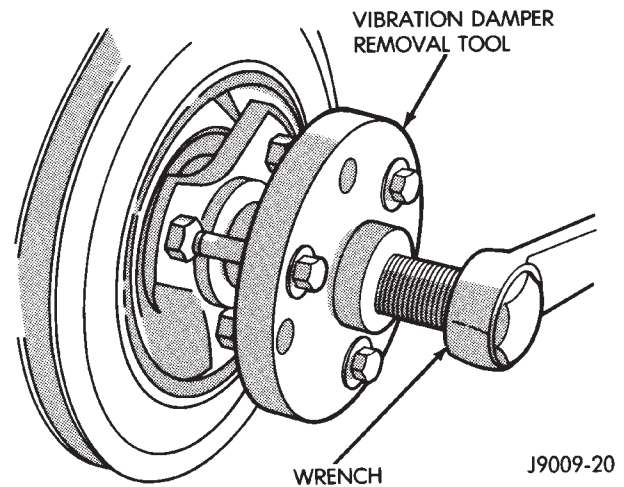

Fig. 1 Vibration Damper Removal Tool 8068
(1) Disconnect negative cable from battery.
(2) Remove the serpentine drive belt and fan shroud.
(3) Remove the vibration damper retaining bolt and washer.
(4) Use Vibration Damper Removal Tool 8068 to remove the damper from the crankshaft (Fig. 1).